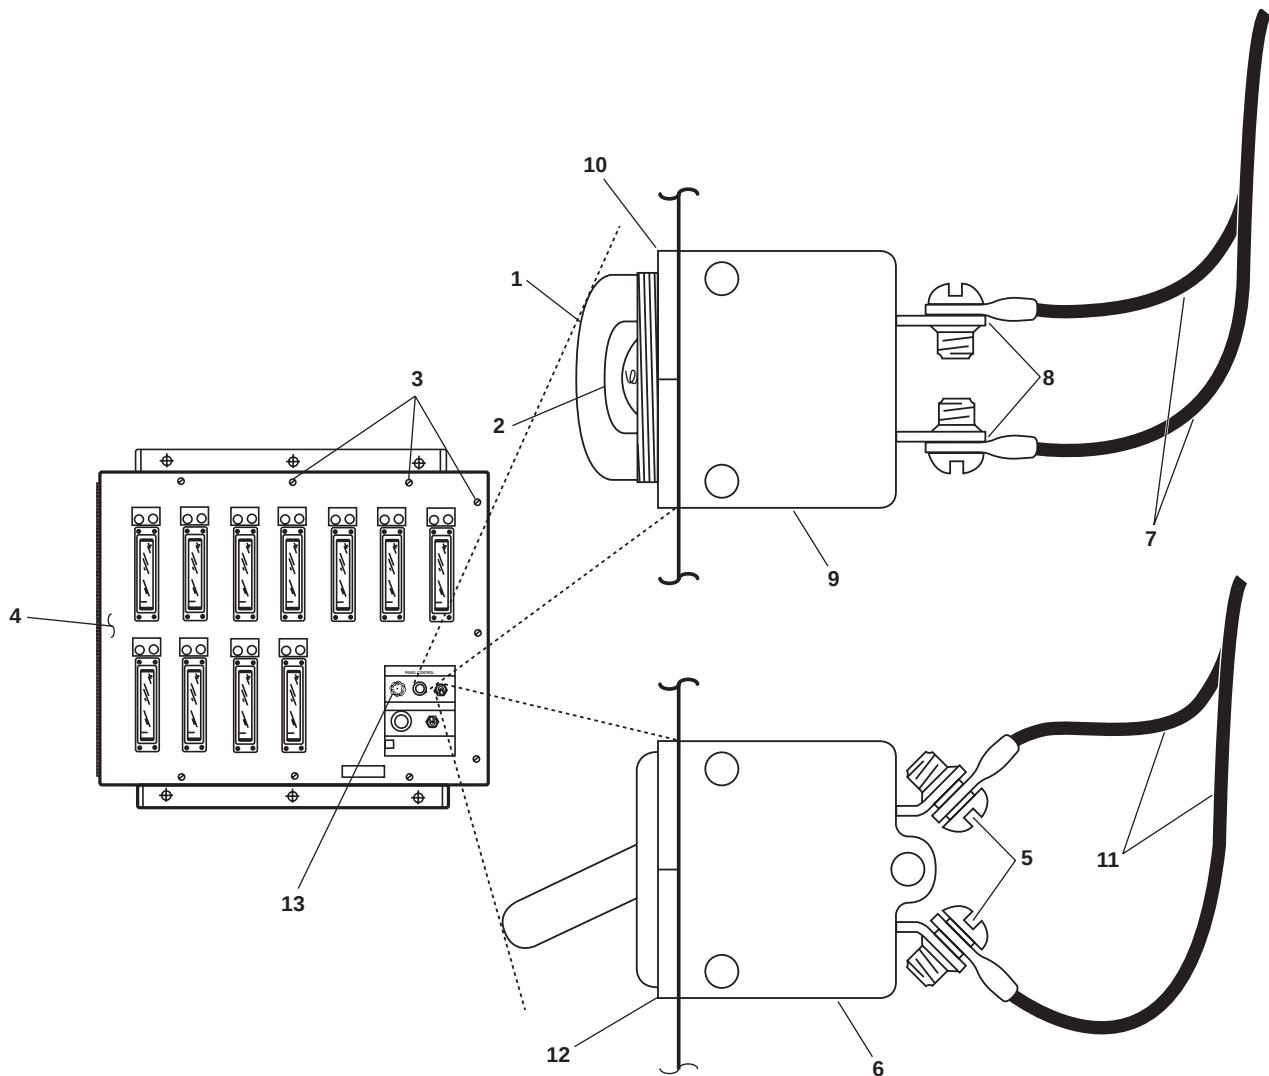

Figure 2. TLI Control Panel and Components
2. Remove the protective lens cover (figure 2, item 1).
3. Remove the bulb (figure 2, item 2).
4. Loosen the nine captive screws (figure 2, item 3) and open the Tank Level Indicator (TLI) control panel (figure 2, item 4).
5. Use a multimeter to check for voltage at the terminals (figure 2, item 5) of the switch assembly (figure 2, item 6). If voltage is present, ensure that the correct circuit breaker is set to OFF, locked out, and tagged out (FM 55-502). If no voltage is present, continue with the procedure.
6. Label and remove the wires (figure 2, item 7) from the terminals (figure 2, item 8) of the lamp assembly (figure 2, item 9).
7. Remove the retaining nut (figure 2, item 10) and remove the lamp assembly (figure 2, item 9) from the TLI control panel (figure 2, item 4).
1. Install the lamp assembly (figure 2, item 9) in the TLI control panel (figure 2, item 4) and secure it with the retaining nut (figure 2, item 10).
2. Install the wires (figure 2, item 7) to the terminals (figure 2, item 8) of the lamp assembly (figure 2, item 9) using the labels from step 6 of Removal as a guide. Remove the labels.
3. Close the TLI control panel (figure 2, item 4) and secure it with the nine captive screws (figure 2, item 3).
4. Install the bulb (figure 2, item 2) finger tight.
5. Install the protective lens cover (figure 2, item 1) finger tight.
2. Loosen the nine captive screws (figure 2, item 3) and open the TLI control panel (figure 2, item 4).
3. Use a multimeter to check for voltage at the terminals (figure 2, item 5) of the switch assembly (figure 2, item 6). If voltage is present, ensure that the correct circuit breaker is set to OFF, locked out, and tagged out (FM 55-502). If no voltage is present, continue with the procedure.
4. Label and remove the wires (figure 2, item 11) from the terminals (figure 2, item 5) of the switch assembly (figure 2, item 6).
5. Remove the retaining nut (figure 2, item 12), and remove the switch assembly (figure 2, item 6) from the TLI control panel (figure 2, item 4).
1. Install the switch assembly (figure 2, item 6) in the TLI control panel (figure 2, item 4) and secure it with the retaining nut (figure 2, item 12).
2. Install the wires (figure 2, item 11) to the terminals (figure 2, item 5) of the switch assembly (figure 2, item 6) using the labels from step 4 of Removal as a guide. Remove the labels.